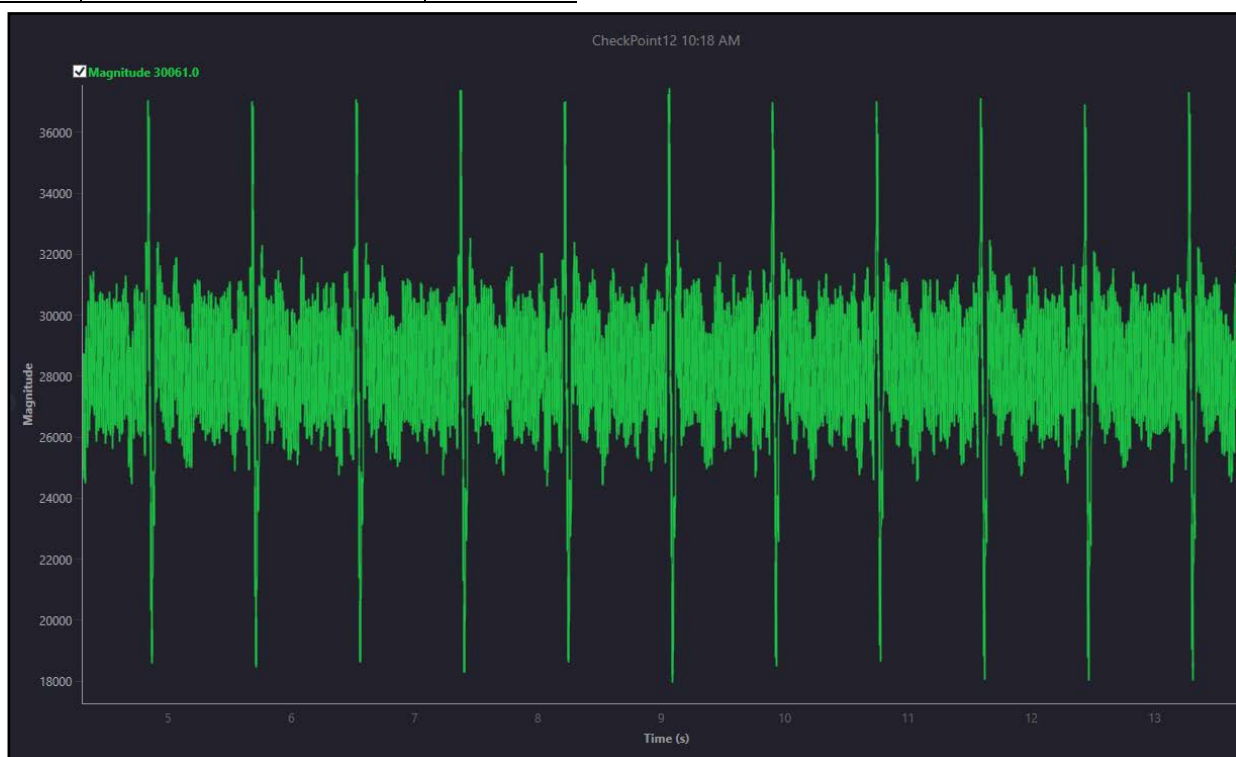

Figure 33. ECG Validation Test Result—ECG Simulator at 80 bpm
11. When you have finished collecting data, the resulting graph should look similar to the one in Figure 33. Due to coupling from the power cable connected to the PC, some noise at around 60 Hz may be present in the reading.